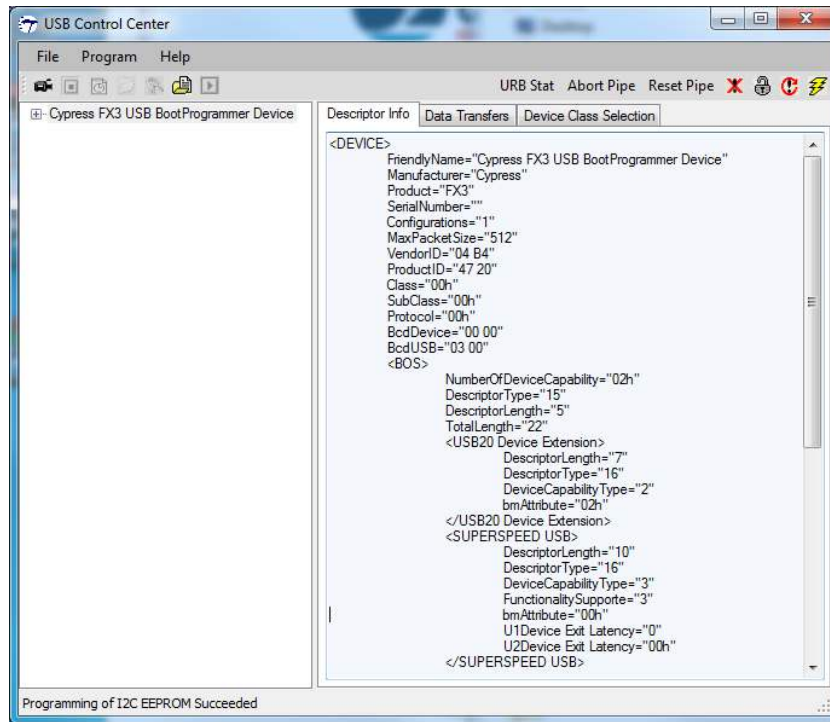

Figure B.2. USB Control Center Descriptor Info
6. You should be able to see the following information in Figure B.2 when your download is complete.